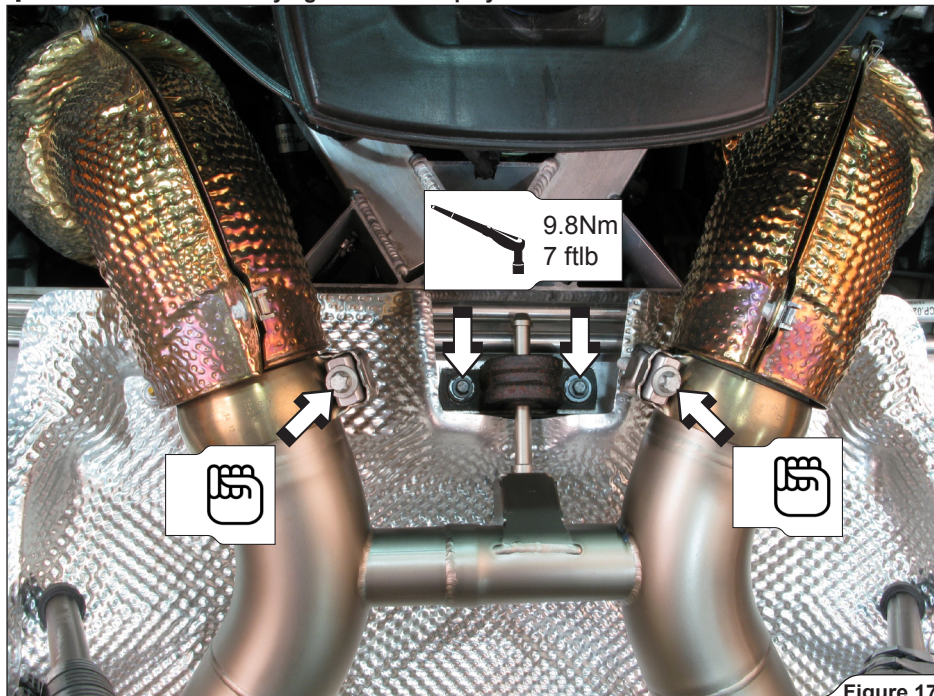

Figure 17
- Carefully insert the muffler, slide the clamps over the joints and tighten the front rubber bracket onto the chassis (**Figure 17**).